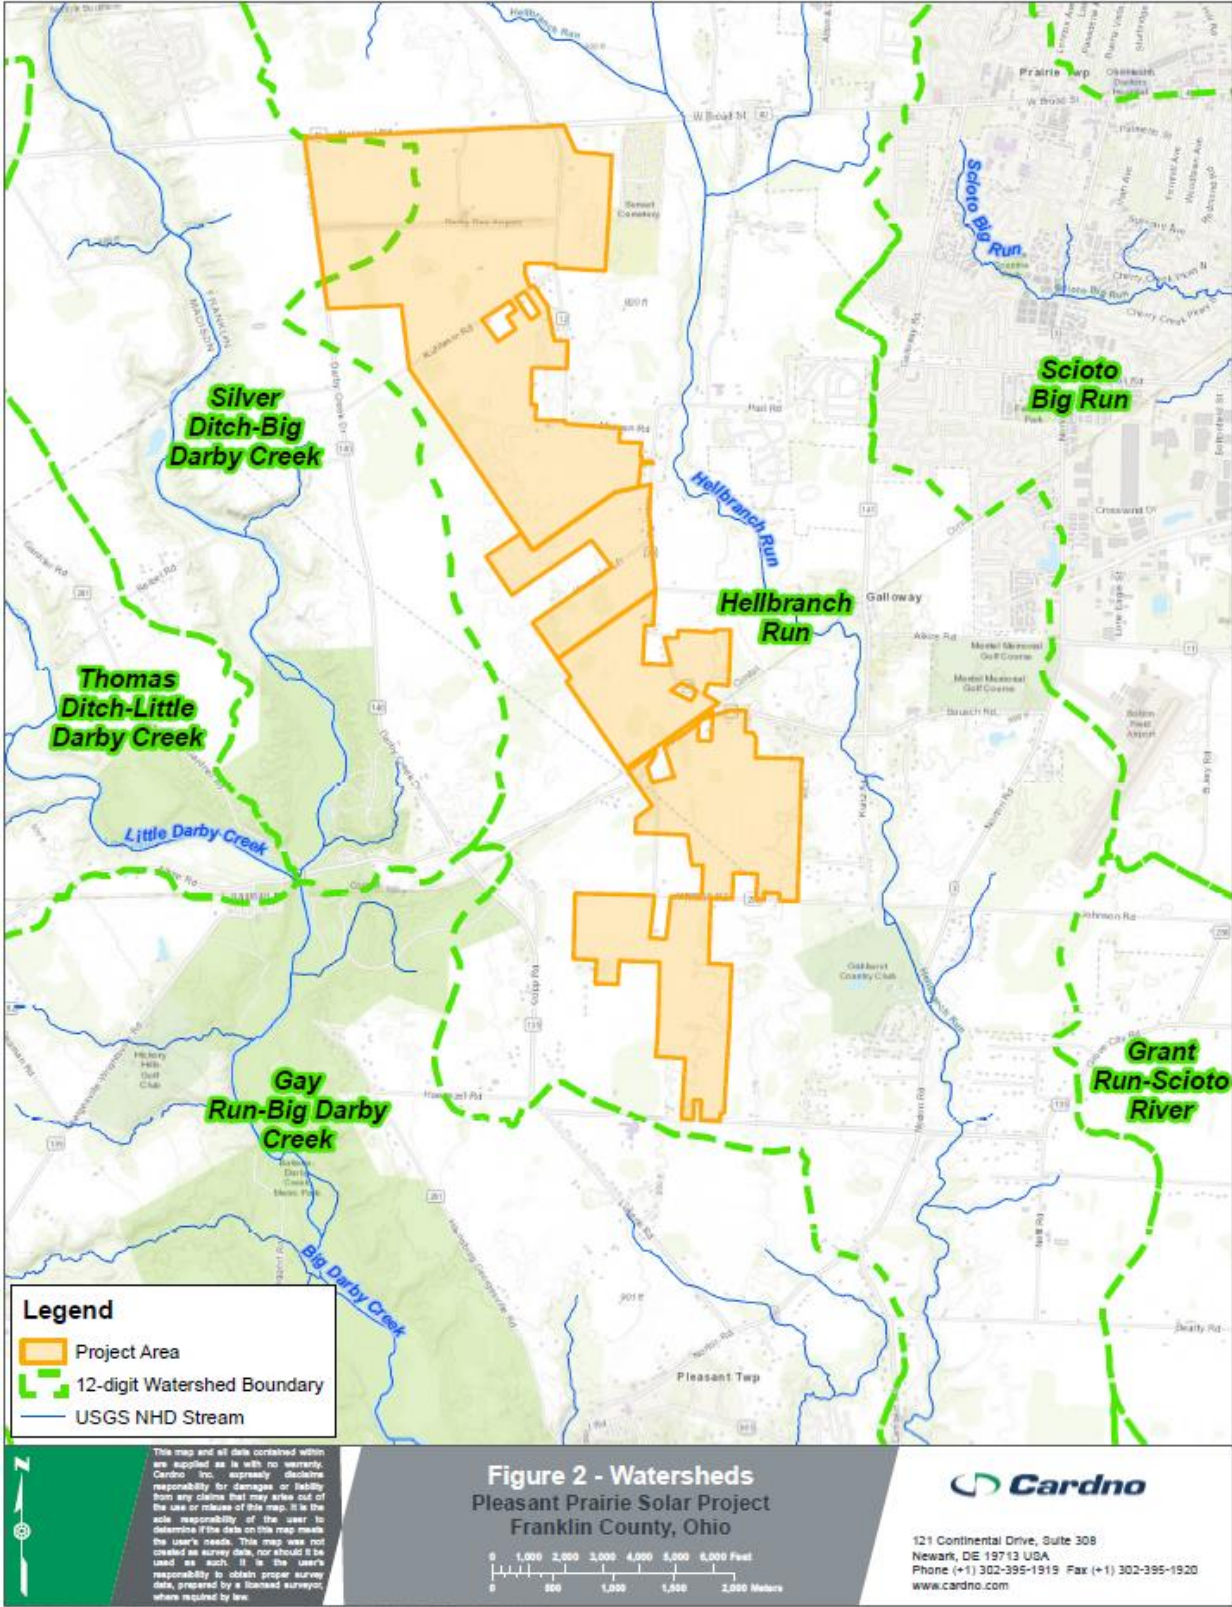

Figure 2. Pleasant Prairie Solar Project Watersheds in Franklin County, Ohio
- Figure 2. Pleasant Prairie Solar Project Watersheds in Franklin County, Ohio 1-3
The Facility lies entirely within the drainage of Big Darby Creek Watershed which flows south into the Scioto River and then to the Ohio River. More specifically, the site drains predominantly east to the Hellbranch Run drainage before flowing south into Big Darby Creek (Figure 2).